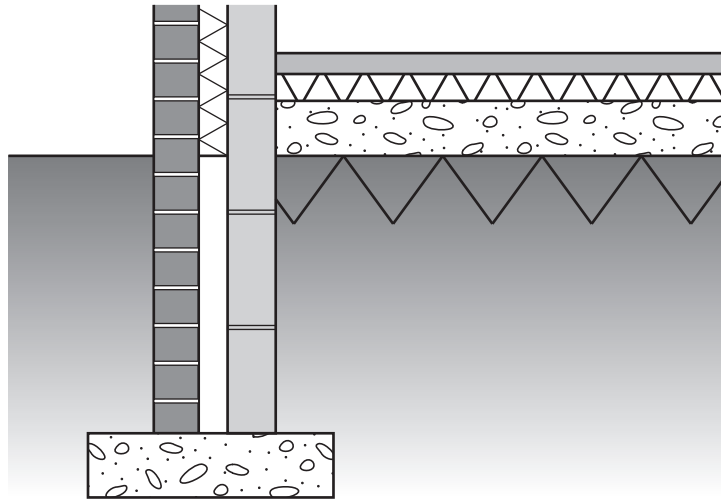

Fig. 1
Fig. 1 shows a ground-supported concrete floor slab.
(a) Give **four** justified design requirements for the floor structure of the type shown in Fig. 1.
- (e) (i) State a **suitable specific material** for the finish to the floor structure shown in Fig. 1.
- (ii) Describe in detail how the floor structure shown in Fig. 1 would be constructed.